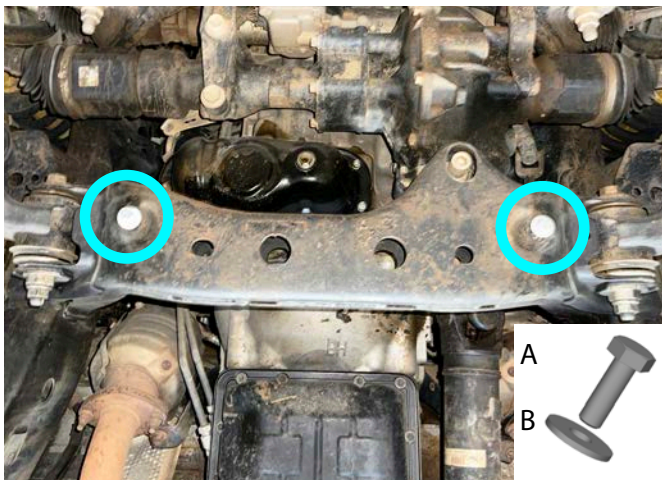

Fig.2
2. Screw bolts M8x30 (item A) with flat washers 8 (item B) as shown in fig.2.